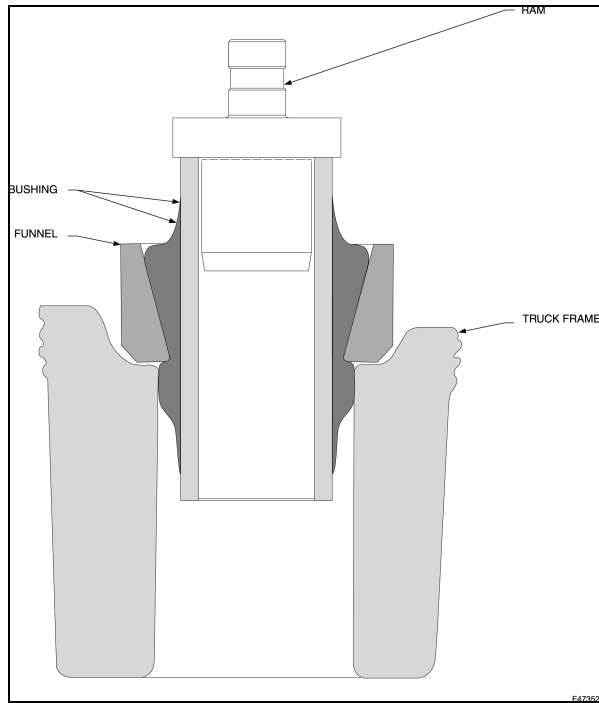

Figure 43 – Carbody Pivot Rod Traction Bushing Alignment
1. Place the installation funnel on top of the hole. See figure 43.